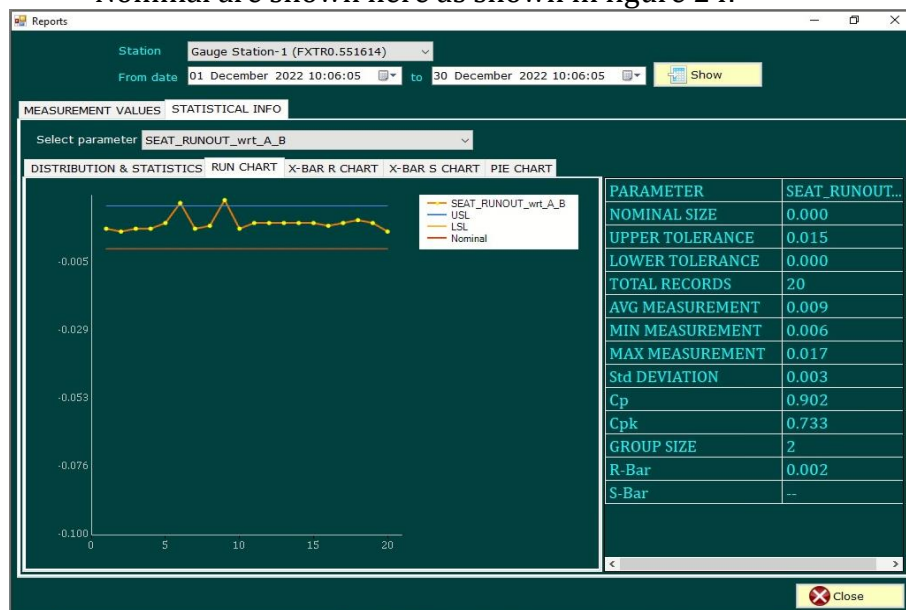

Figure 24
- **Run chart:** A run chart is a line graph. Seat runout with A, B, USL, LSL. Nominal are shown here as shown in figure 24.